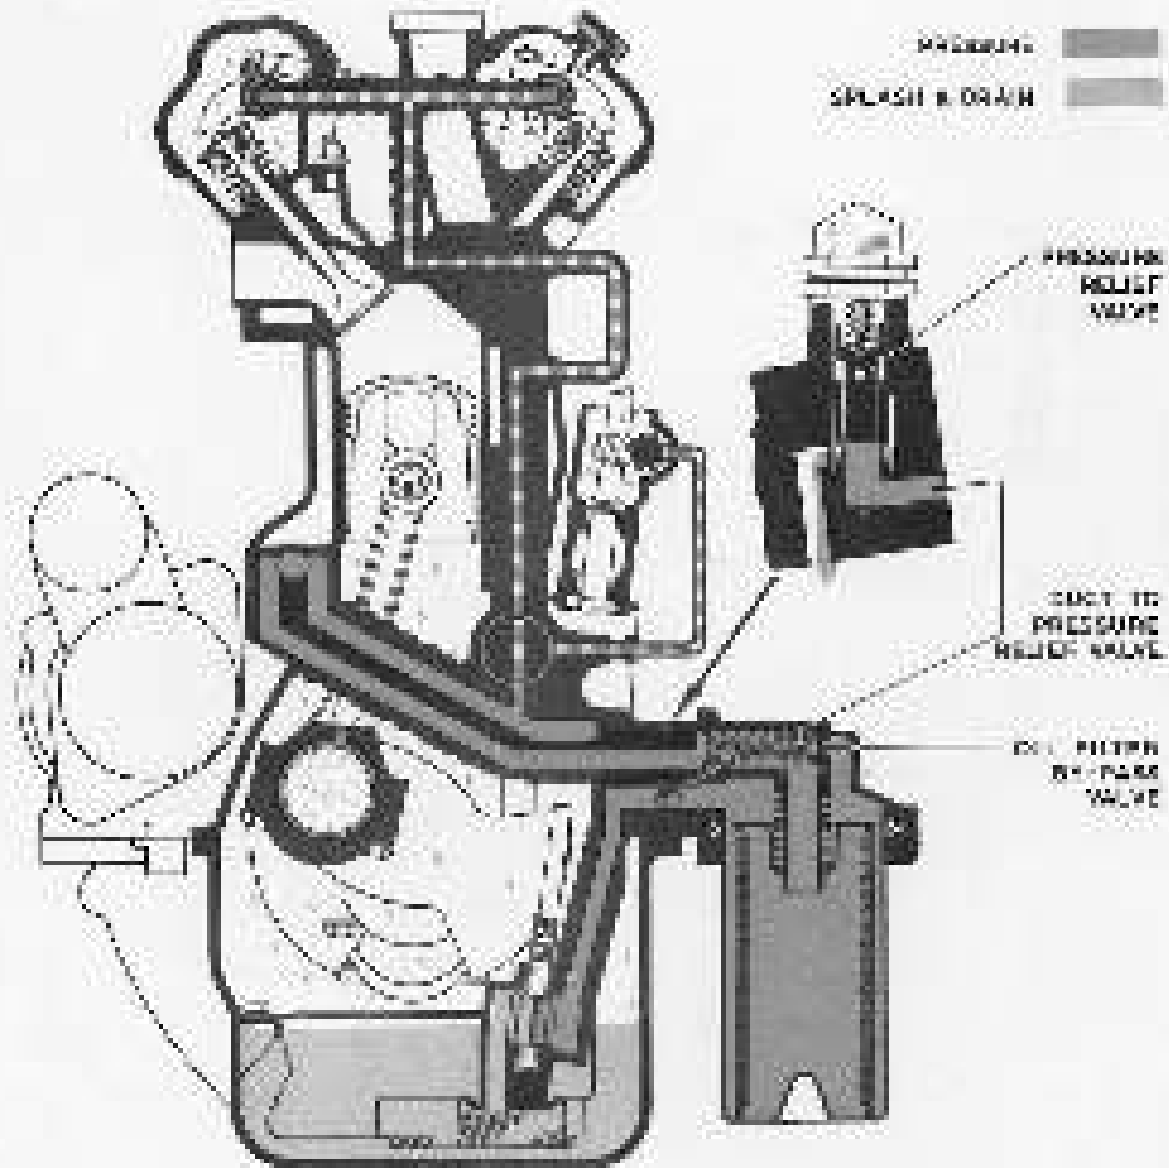

Fig. 4. Diagram of Type 45 and 65 Raptor lubrication system - front view.
Note (1) On type 25 and 814 engines, the oil leaving the filter is ducted to a transfer housing located on the right-hand side of the front of the cylinder block before entering the main gallery. This housing was designed to accommodate an internal oil cooler; where this has been removed, the location is blanked, see page 20. On these engines, the front camshaft bearing is lubricated through a branch duct from the return passage from the oil transfer housing to the main gallery, see Fig. 4.